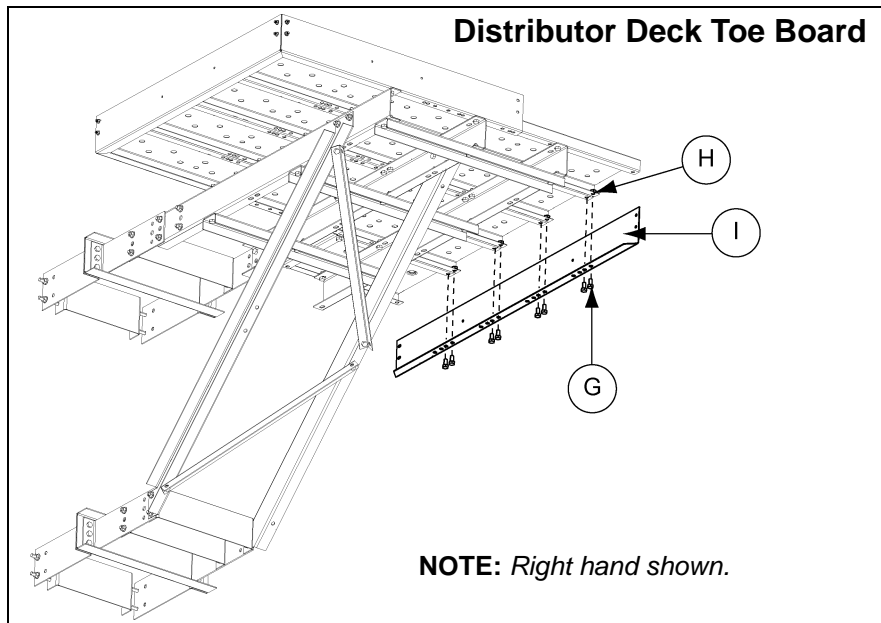

Figure 10J 16" Distributor Platform Toe Board
3. Attach the flange of the toe board short side to the bottom of the 18" decking using two (2) 1/2" x 1" bolt and nuts. Then attach 18" decking to the external platform support using one 1/2" x 1" bolt and nut. (See Figure 10J on Page 82.)